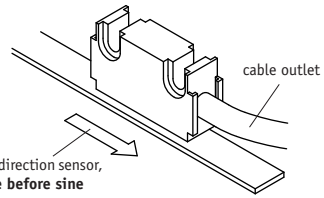

Fig. 6: Definition of counting direction
- **Sensor must be aligned correctly with respect to the counting direction** (see fig. 6). This can be ignored if counting direction can be changed via the follower electronics.